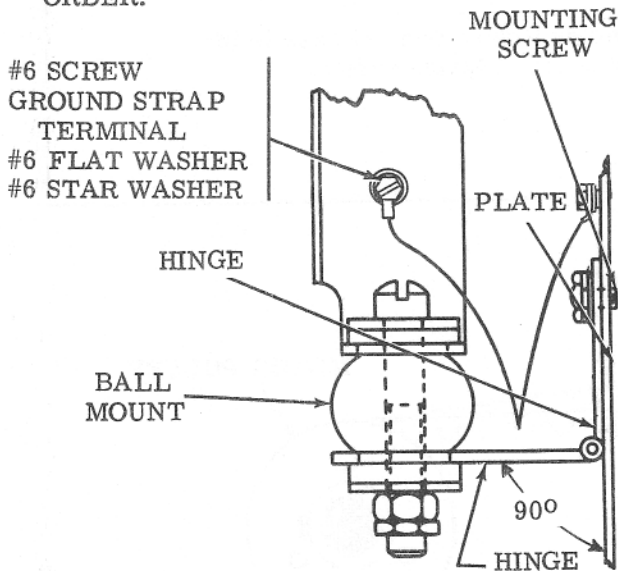

Figure 13 - Ground Strap Installation
- 2.59 Securely connect the two ground straps at the left end of the service unit to the cabinet mounting frame and the page printer mounting frame. See Figure 13. Friction fit ground tabs are supplied.